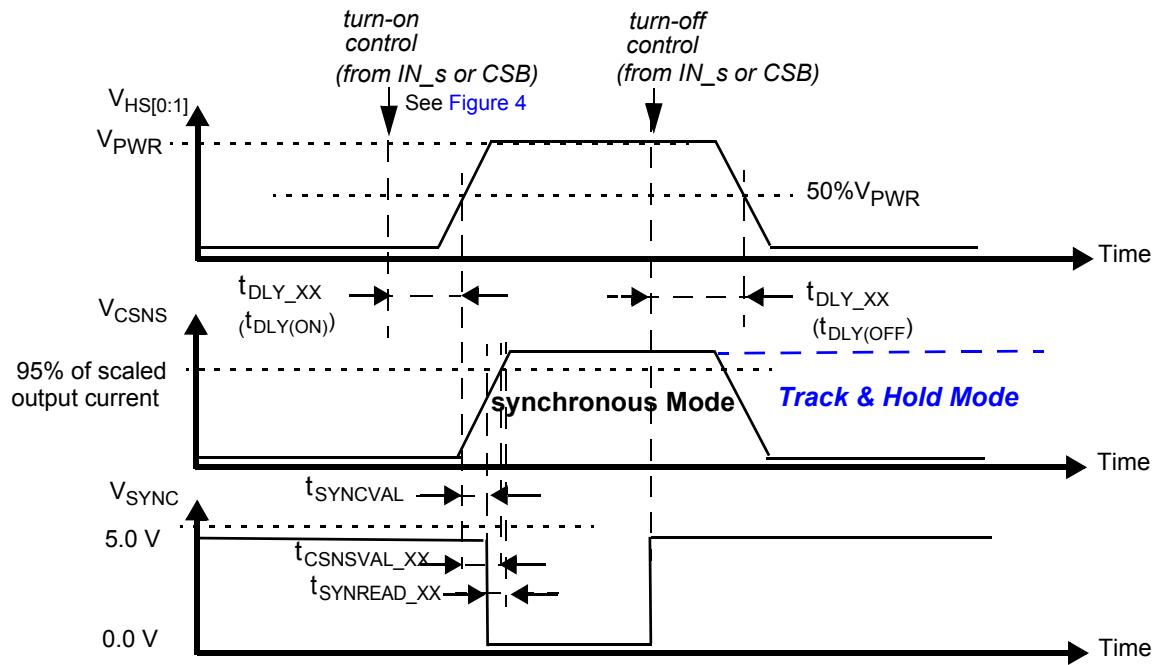

Figure 9. Synchronous and track-and-hold current sensing modes: associated delay & settling times
30. Time required to switch off the channel after detection of overtemperature (OT), overcurrent (OC), SC or UV error (time measured between start of the negative edge on the FSB pin and the falling edge on the output voltage until $V(\text{HS}[0:1]) = 50\%$ of V_{PWR})
31. Settling time ($= t_{\text{CSNSVAL_xx}}$), SYNC output signal delay ($= t_{\text{SYNCVAL_xx}}$) and Read-out delay ($= t_{\text{SYNREAD_xx}}$) are defined for a stepped load current ($100 \text{ mA} < I(\text{LOAD}) < \text{IOCLx A}$ FOR $\text{CSNS_RATIO_S} = 1$, AND $300 \text{ mA} < I(\text{LOAD}) < \text{IOCLx A_0}$ FOR $\text{CSNS_RATIO_S} = 0$). (see Figure 9 and Output current monitoring \(CSNS\))
The CS pin allows independent current monitoring of channel 0 or channel 1 up to the steady-state overcurrent threshold. It can also be used to sense the device temperature. The different functions are selected by setting bits CSNS1_en and CSNS0_en to the appropriate value (Table 23). When the CSNS pin is sensed during switch-off in the (optional) track & hold mode (see Figure 9), it outputs the scaled value of the load current as it was just before turn-Off. When several devices share the same pull-down resistor, the CSNS pins of devices the current of which is not monitored must be tri-stated. This is accomplished by setting CSNS0_en = 0 and CSNS1_en = 0 in the GCR register (Table 10). Settling time ($t_{CSNSVAL_XX}$) is defined as the time between the instant at the middle of the output voltage's rising edge ($HS[0:1] = 50\%$ of V_{PWR}), and the instant at which the voltage on the CSNS-pin has settled to $\pm 5.0\%$ of its final value. Anytime an overcurrent window is active, the CSNS pin is disabled (see Overcurrent detection on resistive and inductive loads). The current and temperature sensing functions are unavailable in Fail-safe mode and in Normal mode when operating without the V_{DD} supply voltage. In order to generate a voltage output, a pull-down resistor is required ($R(CSNS)=1.0\text{ k}\Omega$ typ. and $470 < R(CSNS) < 10\text{ k}$). When the current sense resistor connected to the CSNS pin is disconnected, the CSNS voltage is clamped to $V_{CL(CSNS)}$. The CSNS pin can source currents up to about 5.6 mA.
To synchronize current sensing with an external process, the SYNC signal can be connected to a digital input of an external MCU. SYNC is asserted logic low when the current sense signal is accurate and ready to be read. The current sense signal on the CSNS pin has the specified accuracy $t_{SYNREAD_XX}$ seconds after the falling edge on the SYNC pin (Figure 9) and remains valid until a rising edge is generated. The rising edge that is generated by the SYNC pin at the turn-OFF instant (internal or external) may also be used to implement synchronization with the external MCU. Parameter $t_{SYNCVAL_XX}$ is defined as the time between the instant at the middle of the output-voltage rising edge ($HS[0:1] = 50\%$ of V_{PWR}), and the instant at which the voltage on the SYNC-pin drops below 0.4 V (V_{SOL}). The SYNC pins of different devices can be connected together to save μ -controller input channels. However, in this configuration, the CSNS function of only one device should be active at a time. Otherwise, the MCU does not determine the origin of the SYNC signal. The SYNC pin is open drain and requires an external pull-up resistor to VDD.